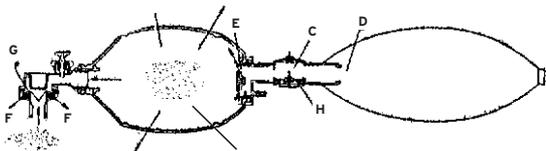

Figure 2. Inspiration
Gas is delivered to the patient by squeezing the silicone bag (see figure 2). Positive pressure within the bag caused by its compression closes the intake valve (E) located at the base of the bag. This causes the 2 duckbill valve (F) to close off the expiration ports (G) of the non-rebreathing valve assembly. Further compression of the bag forces gas through the duckbill valve to the patient. If supplemental gas is used, oxygen is delivered to the reservoir (D) during compression of the silicone bag.